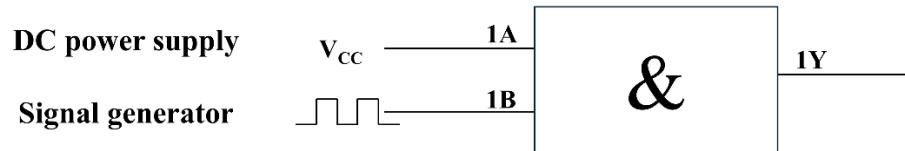

Figure 9. Circuit diagram.
- (1) Wire the circuit based on the diagram in Figure 9. Do not forget the V_{CC} and ground pins on the chip.
- (1) Wire the circuit similarly to experiment on CMOS voltage levels (ref. Figure 9).
- (2) Connect the DC power supply, signal generator, and oscilloscope (CH1 for 1B and CH2 for 1Y) into the circuit. Set $V_{CC}=5.0V$ in the power supply. DO NOT output now.
- (3) Use the signal generator to output a 10Hz square wave with 5.0V for “1”, and 0V for “0”.
- (4) Output power supply and the signal generator. Observe input and output in the oscilloscope.
- (5) Gradually reduce the level of high voltage of the wave sequence of 1B at appropriate steps, and reach a point where the unstable reading occurs. Record the unstable wave image and the voltage at a high level.
- (6) Reset high voltage to 5.0V. Gradually increase the level of low voltage at appropriate steps, and reach another unstable reading. Record the unstable wave image and the voltage at a low level.